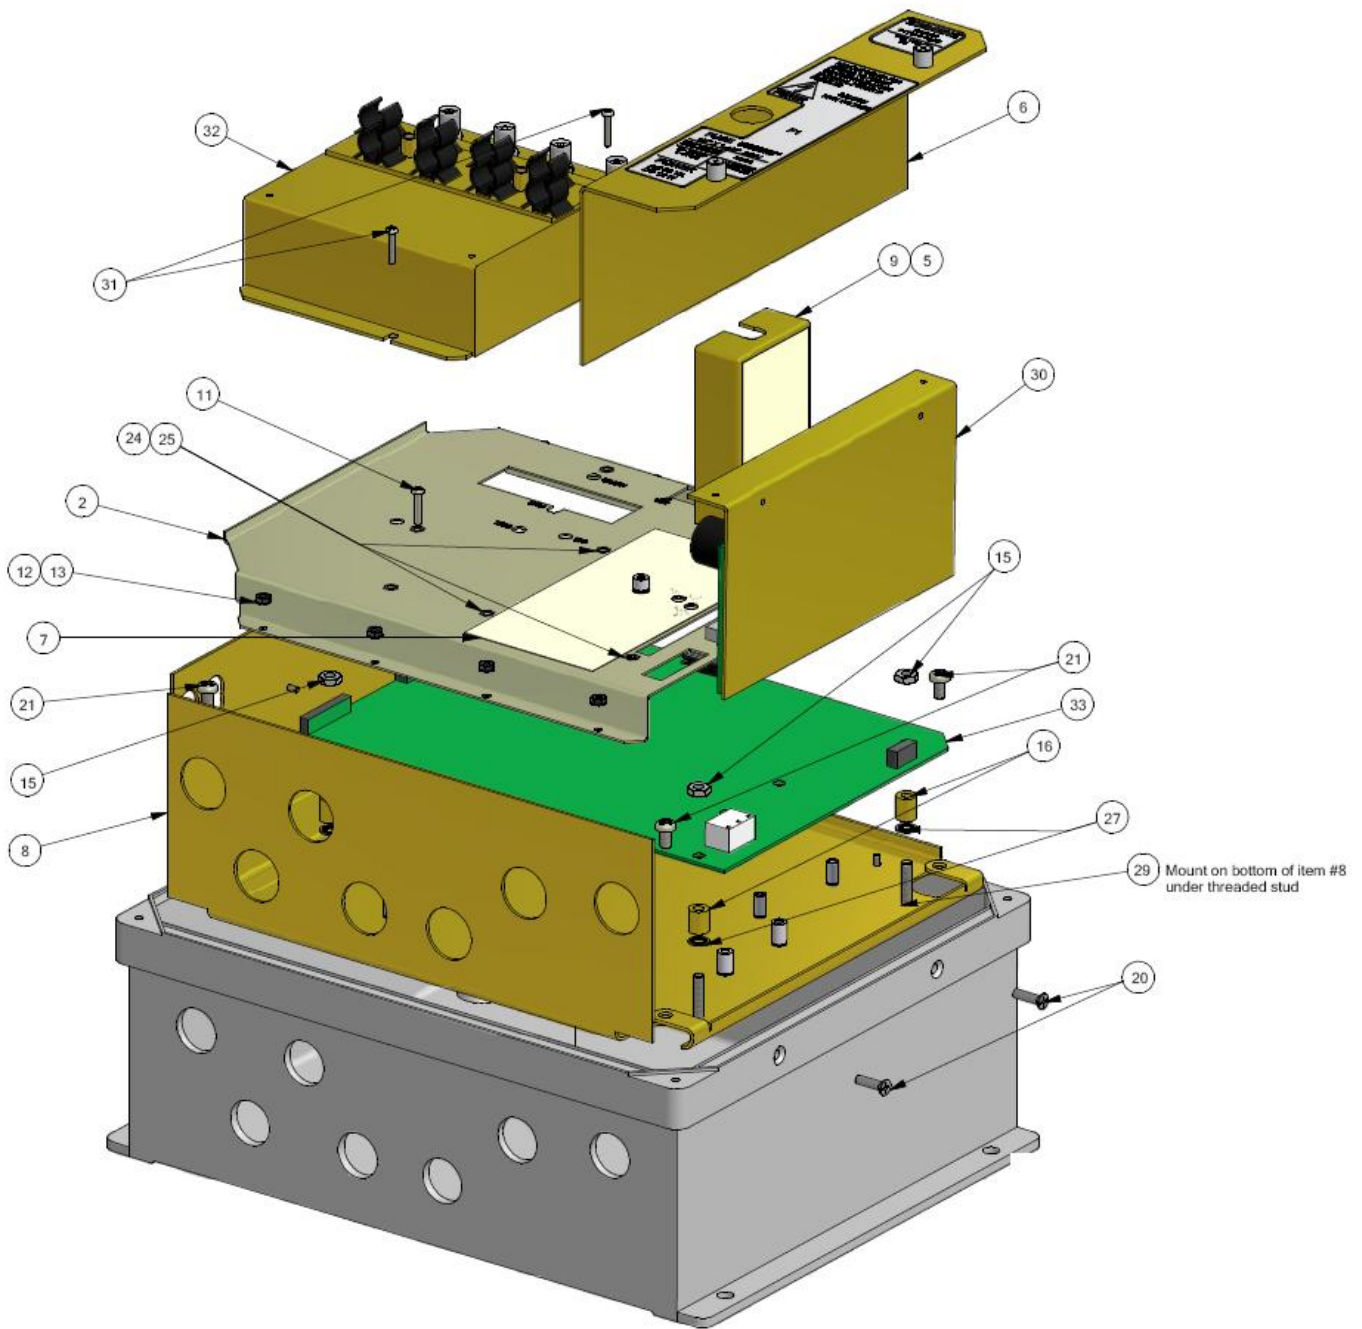

Figure 2-3 Installation Part 2
1. Install shim (29) onto bottom of pan (8) as shown in Figure 2-3. Install the bottom pan (8) into the case. In some cases, the hinge screws may need to be backed out slightly and the pan side adjusted with the holes placed behind the case hinge screws.
2. Install the four new 10-32 cross-head (Phillips) screws (21) into the four corner mounting holes of the case, holding the bottom pan in place.
3. Install four (4) #10 star washers [27] and four 3/8" spacers (16) onto four 10-32 threaded studs in the four bottom corners of the SysCom bottom pan. The threaded studs are part of the bottom pan assembly. The #10 starwashers are placed under the spacers.
4. **IMPORTANT-** Install the new SysCom (33) board onto the four 3/8" spacers (16) in the corner of the bottom pan. Install the four new 10-32 hex nuts (15) into the four corner mounting holes of the case. Do not tighten as this allows the SysCom PC board to be aligned in Step 7.
5. Re-Install the Power Supply (30), carefully guiding the two connectors (J2 & J11) into place.
6. Install two flat head seal screws (20) to secure Power Supply (right top edge of case) and tighten.
7. Tighten the four new 10-32 hex nuts (15).
8. Attach two ribbon cables to left side of new SysCom (33). Take care to make sure pins are aligned.
9. Remove adhesive backing and adhere the Insulator (7) to the SysCom Top Shield (2). Follow and align access holes for placement.
10. Install SysCom Top Shield (2) onto bottom pan (8). Ensure that fuse and fuse wires are not pinched between the top pan and SysCom PC board.
11. Install two pan head screws, 4-40 x 5/8" (14) into two locations as shown.